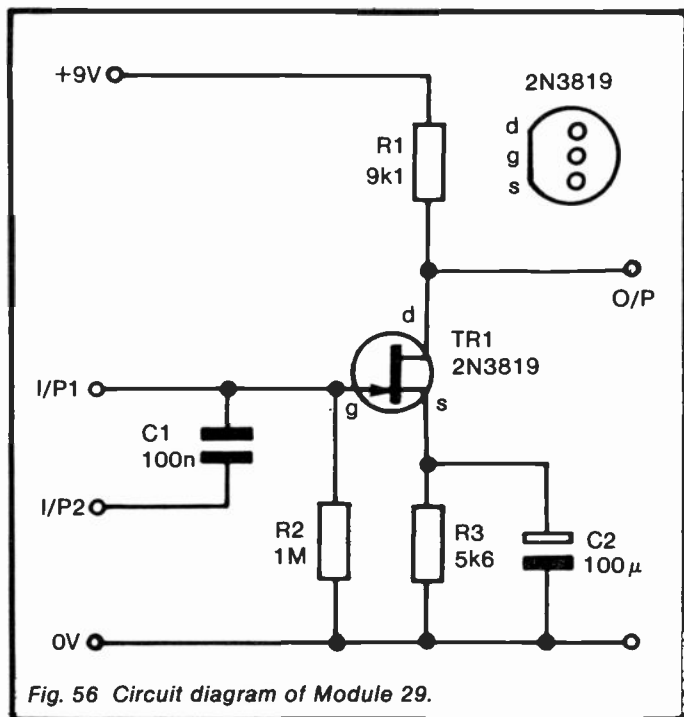

Fig. 56 Circuit diagram of Module 29.
*Circuit diagram:* see Figure 56.